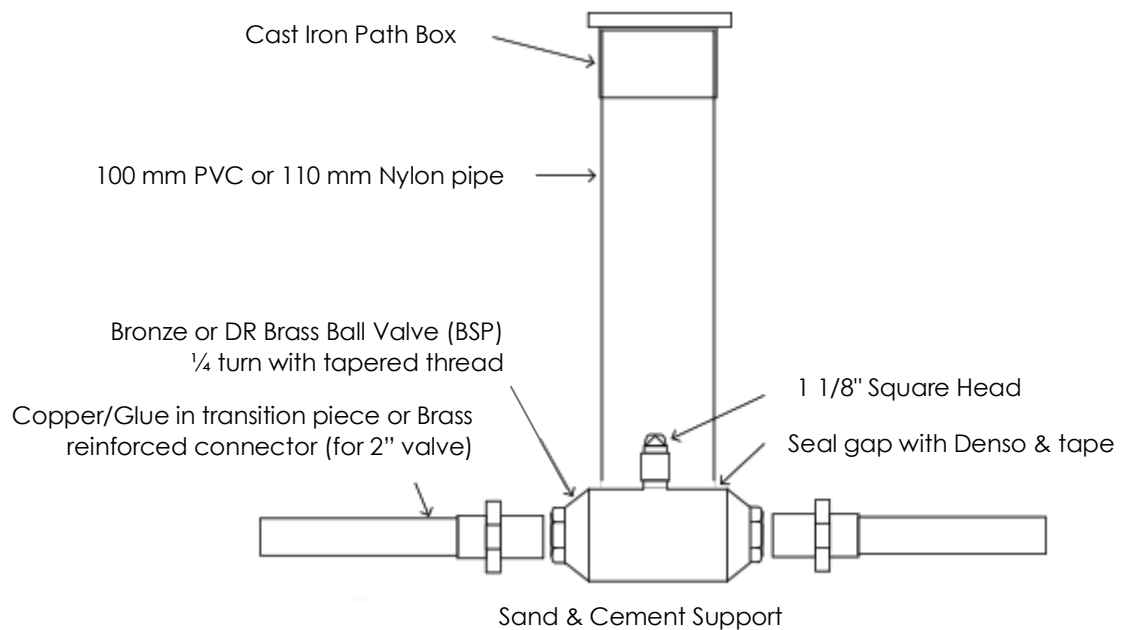

Figure 8 Typical Path Valve Installation
- If required install path valve as per Figure 8 Typical Path Valve Installation below